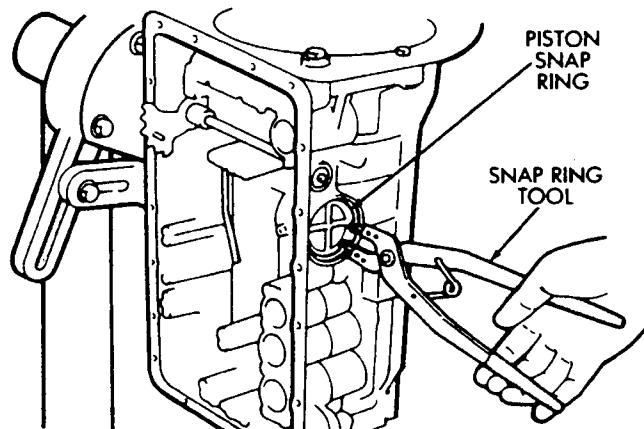

Fig. 33 Installing Second Coast Brake Piston Snap Ring
(41) Install replacement seals on second coast brake piston cover and install cover in case.
(42) Install second coast brake piston snap ring with tool B.Vi. FM-29 (Fig. 33).